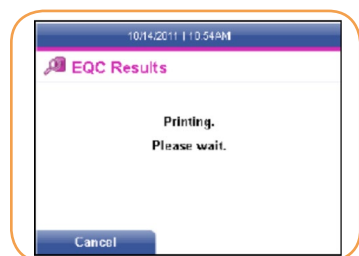

FIGURE 91
2. Use the [↓] key to cursor down to the *Print List* option. Press the right soft key to select it. A screen will appear stating that the list is printing, please wait (Figure 91).